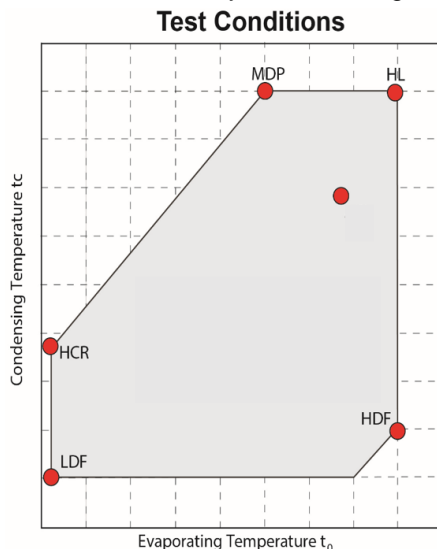

Figure 5: Testing points for oil return behaviour investigation
- Repeat the test at different operating conditions, starting with the main operating point. Test different operating points in the corners of the operating envelope as well. Refer to **Figure 5** for main operating point, high load HL, maximum differential pressure MDP, high compression ratio HCR, low density flow LDF, high density flow HDF.